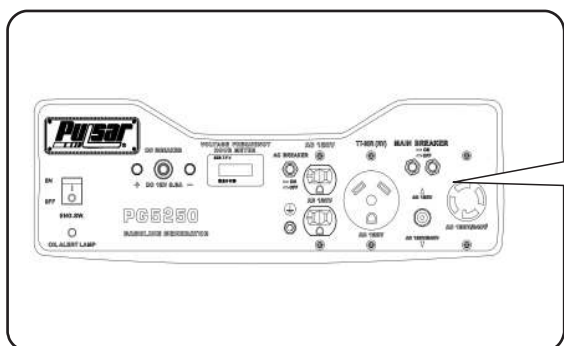

Fig 9 Recoil Start
- For manual start, turn the engine ON/OFF switch to the “ON” position. Pull the recoil handle (starter cord) slowly until resistance is felt, then pull rapidly. (See fig 9)